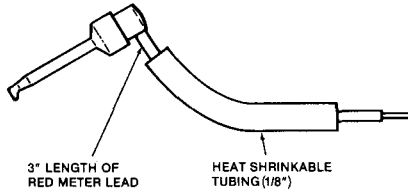

Fig. B-4. Assembly, step 1.
1. Slide 1 1/2-inch length of 1/8-inch heat shrink tubing onto red meter lead as shown in Fig. B-4. Do not shrink the tubing at this time.